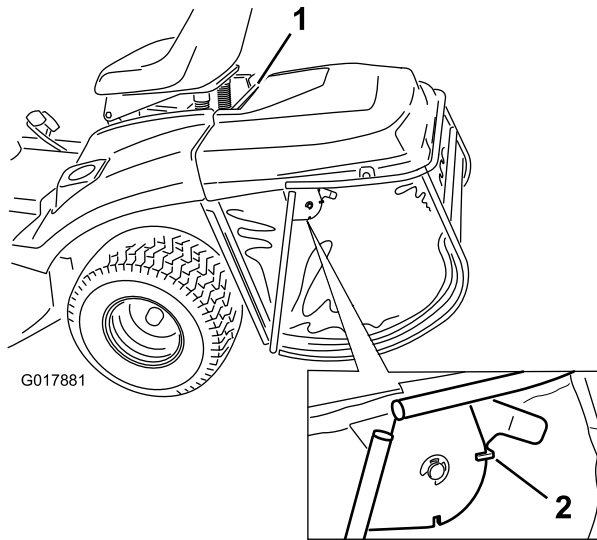

Figure 39
1. Lock the locking latch on the grass collector (Figure 39).